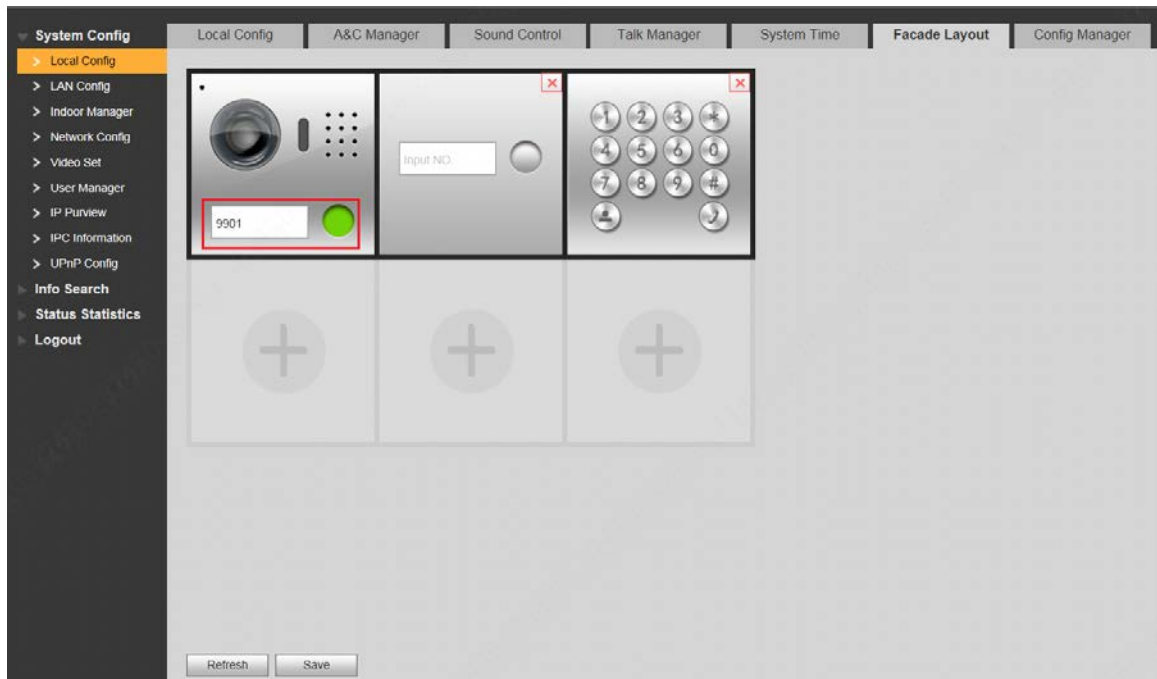

Figure 6-6
- Confirm whether call key is bound with master VTH, as shown in Figure 6-6. Please refer to “7.7.2 Facade Layout” for details.